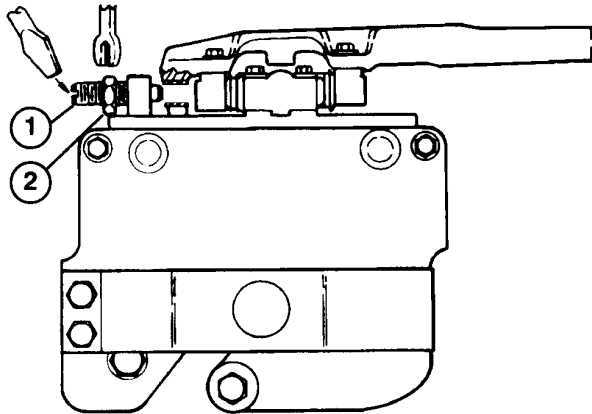
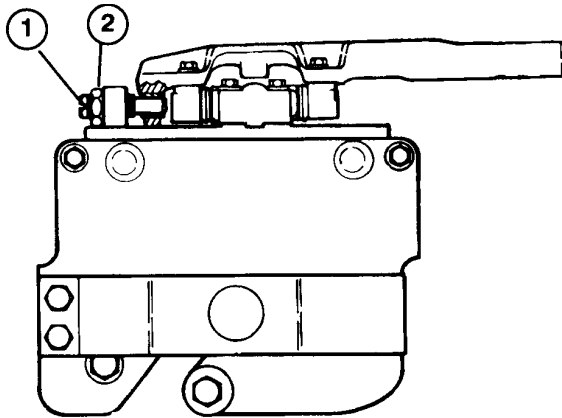

Figure 2
Figure 3
- Start the engine and lower the cutting units onto a flat surface such as a piece of 2.5 cm plywood (at least 50 cm x 70 cm in size). Stop the engine and remove the key from the switch. Lock the cutting units in the fixed position by loosening the jam nut on lockout pin (Fig. 2) and screwing the pin into the hole in pivot arm (Fig. 3). Tighten the nut. Raise the front rollers up so they do not contact the flat surface.
- Loosen the lockout pin so the cutting unit can float freely (Fig. 2).